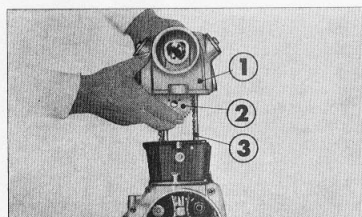

Figure 23. ① Cylinder head ② Cam sprocket ③ Cam chain
1. When installing the cylinder head, the cam sprocket must be contained within the cylinder head. (Fig. 23)